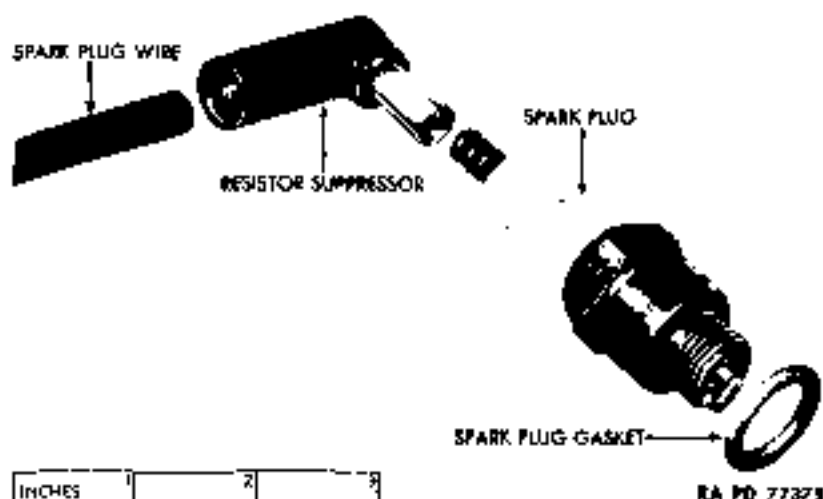

Figure 108 - Spark Plug Resistor Suppressor Installation
a. **Description** (fig. 108). Seven resistor-type suppressors are used, one located on top of each spark plug, and the remaining suppressor in the coil to distributor high tension secondary wire about an inch above the distributor cap.